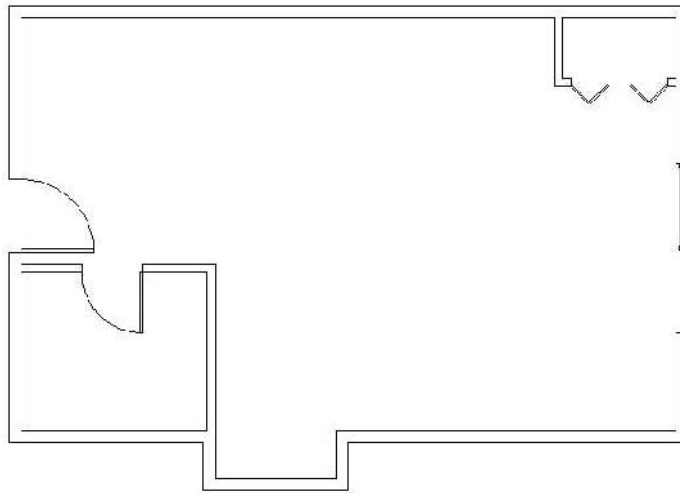

FIGURE 4.77: The cabin with the walls and doors completed
17. Click the Zoom Extents button to see the full floor plan with all doors (see Figure 4.77).